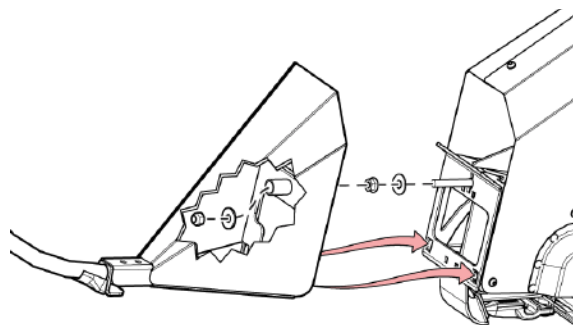

Fig. 33 - Install Crop Divider
Ensure the crop dividers are properly installed & free from material buildup. (See Fig. 33 on page 37)
- ☐ Ensure the crop dividers are properly installed & free from material buildup. (See Fig. 33 on page 37)